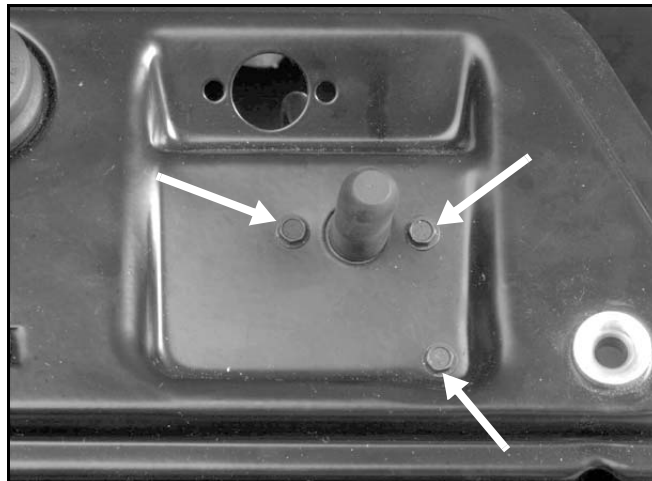

Figure 21
7. On electric start models, remove three screws connecting the switch box to the control panel support (Figure 21).